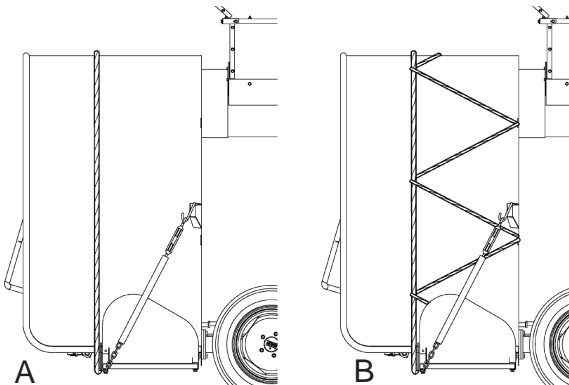

Figure 18 – Arrangement of elastic ropes
14) Position the elastic rope as an accessory so that it holds the grain bag mounted on the silo tunnel. This 16-mm (5/8") diameter rope, which helps to control the unfolding of the grain bag, hooks into the eyelets located at the bottom of the tray as shown in Figure 18 (A). The 8-mm (5/16") diameter rope used for holding the elastic rope should be hooked into the eyelets located on the silo tunnel, running round the elastic rope between one ring and the next. This retaining rope should end up arranged in a zigzag as shown in Figure 18 (B).